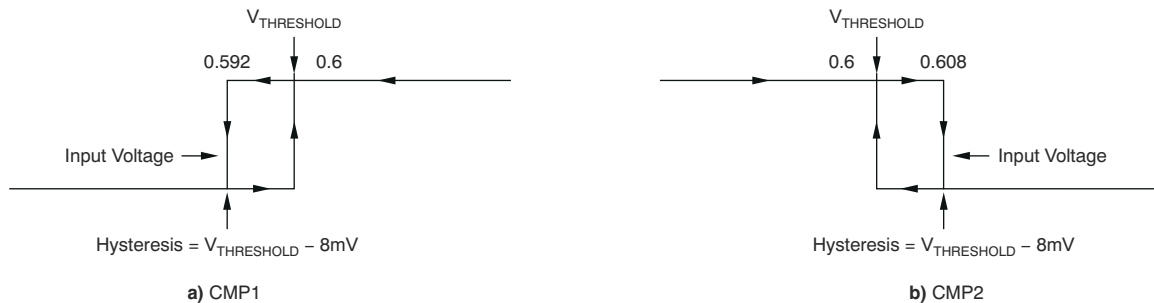

图 6-1. Comparator Hysteresis
- (1) Hysteresis refers to the threshold (the threshold specification applies to a rising edge of a noninverting input) of a falling edge on the noninverting input of the comparator; refer to Figure 6-1.
- (2) Specified by design; not production tested.
- (3) See the Comparator Maximum Input Voltage Range section in the Application and Implementation.
- (4) The comparator response time specified is the interval between the input step function and the instant when the output crosses 1.4 V.
- (5) The CMP1 RESET input has an internal 2-M Ω (typical) pulldown. Leaving the CMP1 RESET open results in a LOW state, with transparent comparator operation.
- (6) The Comparator 2 delay applies to both rising and falling edges of the comparator output.